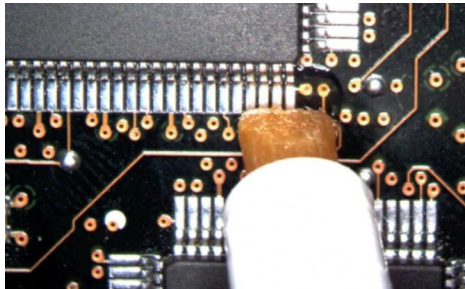

Figure 50 Applying Flux
- 3 Apply flux to your target leads as shown in **Figure 50**.